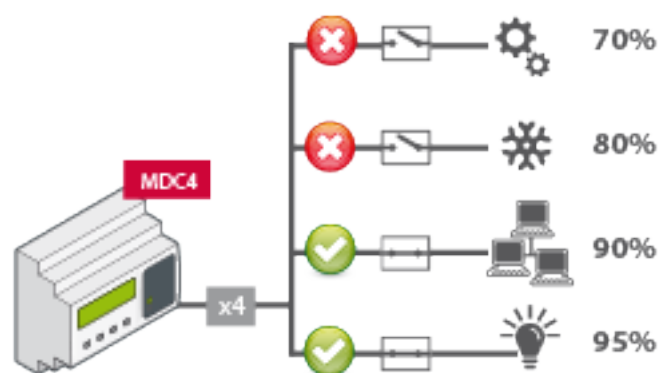

Figure 5: MDC-4 installation.
**Example:** Let's take an installation such as that shown in **Figure 5**, in which the level of each of the output relays has been programmed as follows: